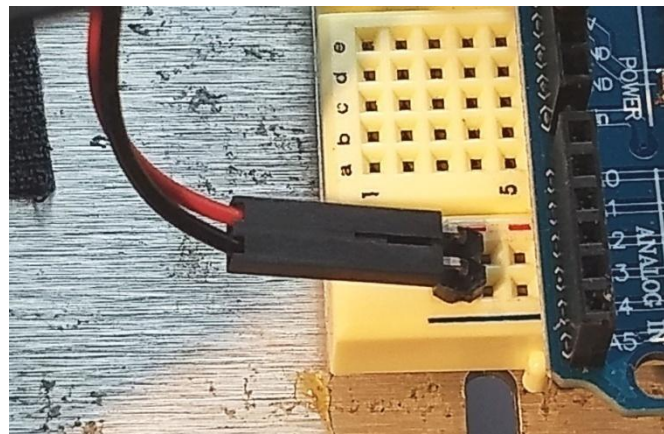

Figure 15. Connecting a battery pack to the XBoard.
3. Disconnect the two-prong battery connector that you used in the 7 segment LED project, and move it to the rail next to A3. Face it away from the Arduino. As shown in Figure 15.
4. Reconnect the wire harness from the battery pack to the breadboard, as shown in Figure 15. NOTE: The two-prong connector can be positioned anywhere on the XBoard, provided that the black lead aligns with ground and the red lead aligns with power.
Reconnect the wire harness from the battery pack to the breadboard, as shown in Figure 15. **NOTE:** The two-prong connector can be positioned anywhere on the XBoard, provided that the black lead aligns with ground and the red lead aligns with power.